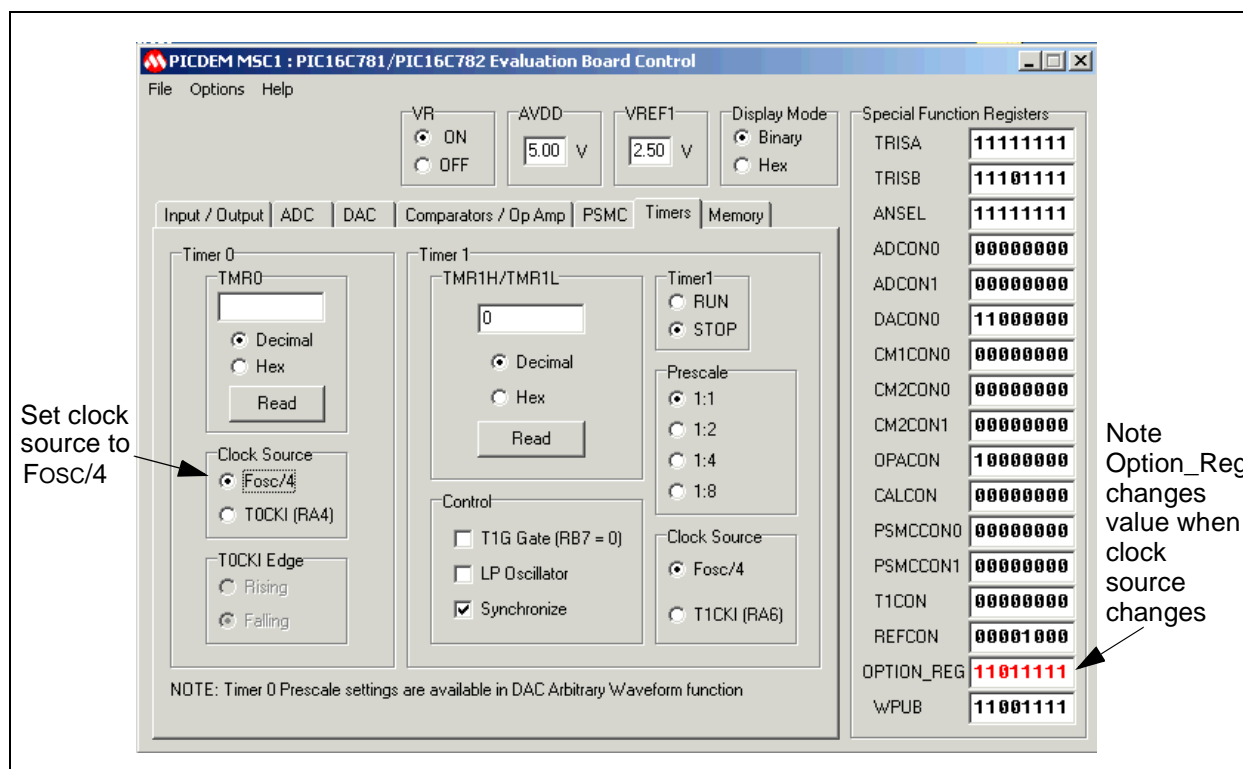

Figure 3.6: Clock Source Selection
10. Select the Sine waveform button. The following waveform representing two periods of a sine wave is displayed, as shown in Figure 3.6: